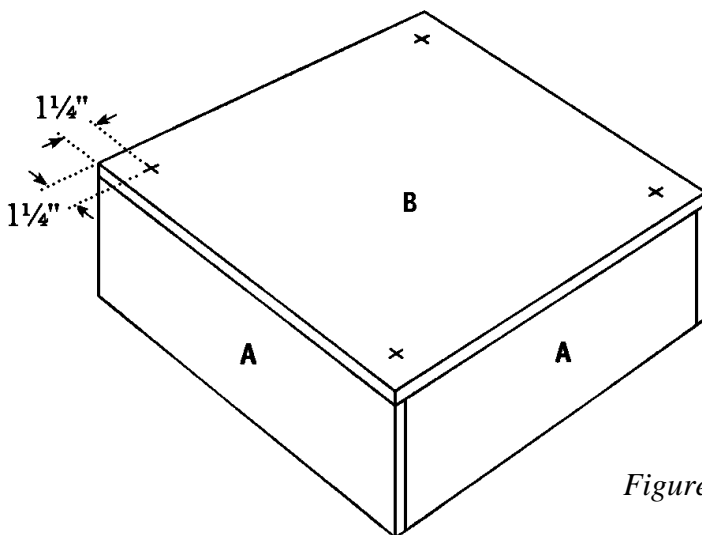

Figure 7
2. Place the assembled lower box upside-down on a flat surface so that the Lower Bottom (B) is facing up. Drill through all four corners the Lower Bottom (B), in the locations shown in Figure 7.